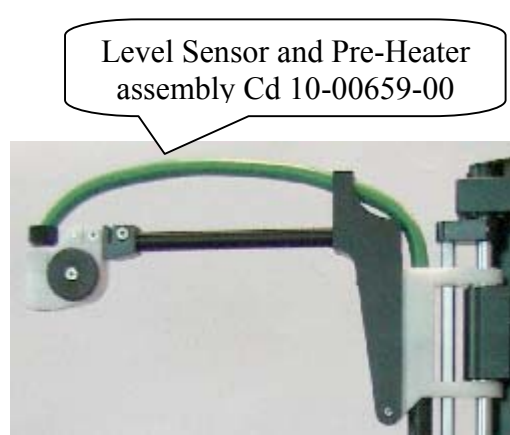

Fig. 42 Level Sensor & Preheater Assembly
9. Unscrew the Preheater and Level sensor fastening screws, remove it from its housing and substitute it with the new one (Fig. 42).